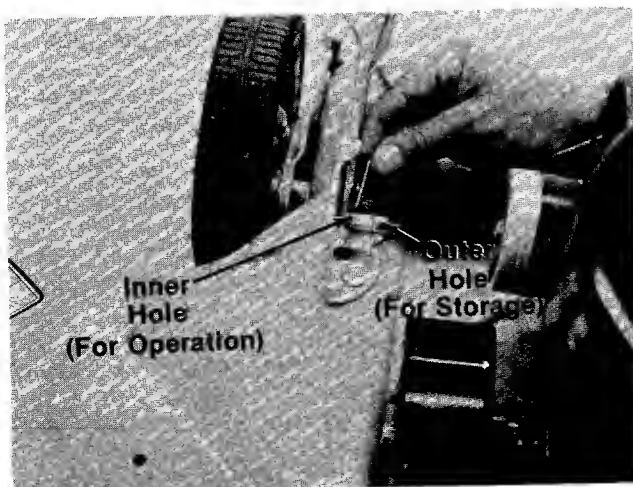

FIGURE 2.
There are two (2) holes in the handle mount brackets. Place the lower handle against the brackets and secure with hairpin cotter in the inner hole. Inner hole is for operation. Outer hole is for storage. See figure 2.